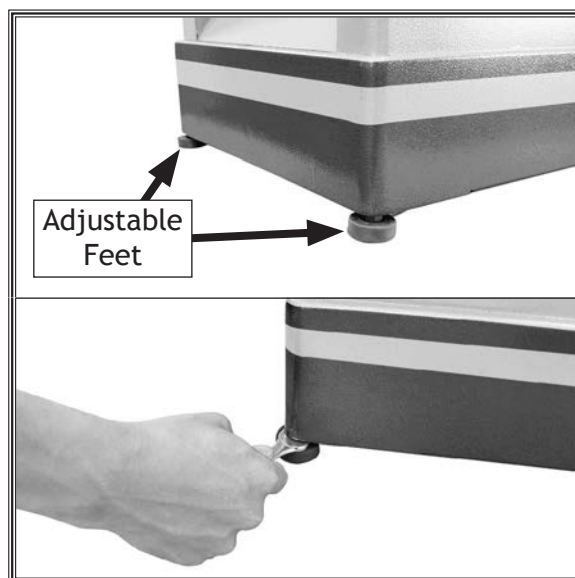

Figure 13. Stabilizing jointer.
8. Adjust feet (see Figure 13) as necessary until jointer is stable without any rocking or wobbling.